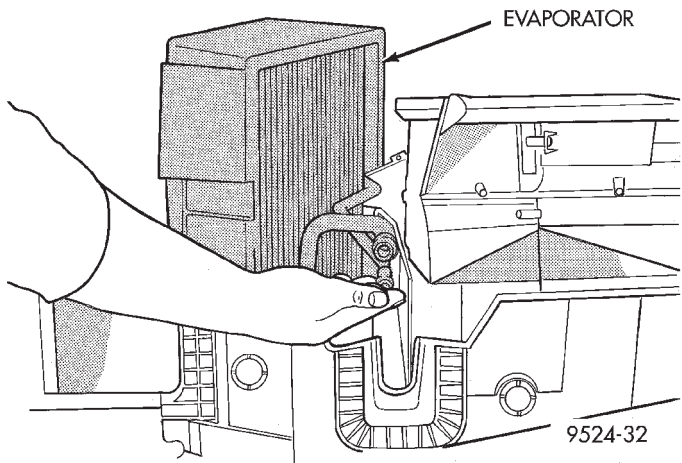

Fig. 54 Evaporator
(9) Carefully pull up on evaporator and remove from housing (Fig. 54).
(10) If replacing evaporator, drain and measure amount of oil from old evaporator and add new oil of the same amount (ND8 PAG) to the new evaporator before installing. Use SP 10 PAG oil for 2.5L diesel and 2.0L gasoline engine vehicles.